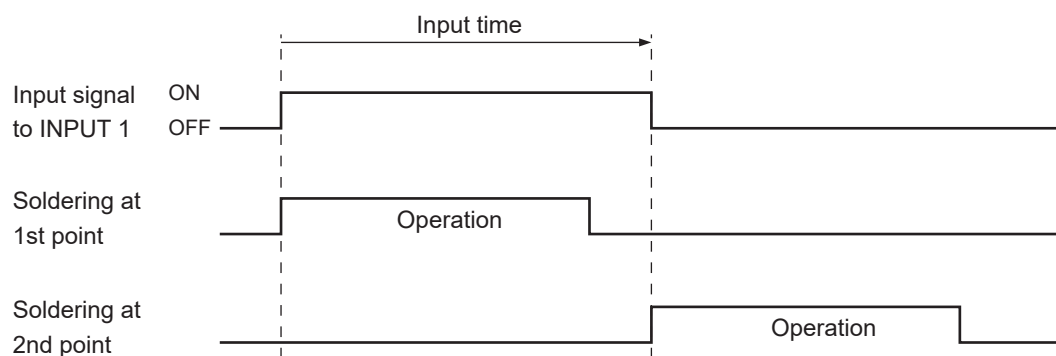

Fig. 7-104
- (1) When the input signal to INPUT 1 from an external device is ON, soldering at the 1st point is performed.
- (2) When the input signal to INPUT 1 from an external device is OFF after the 1st point is completed, soldering at the 2nd point is performed (See Fig. 7-104).